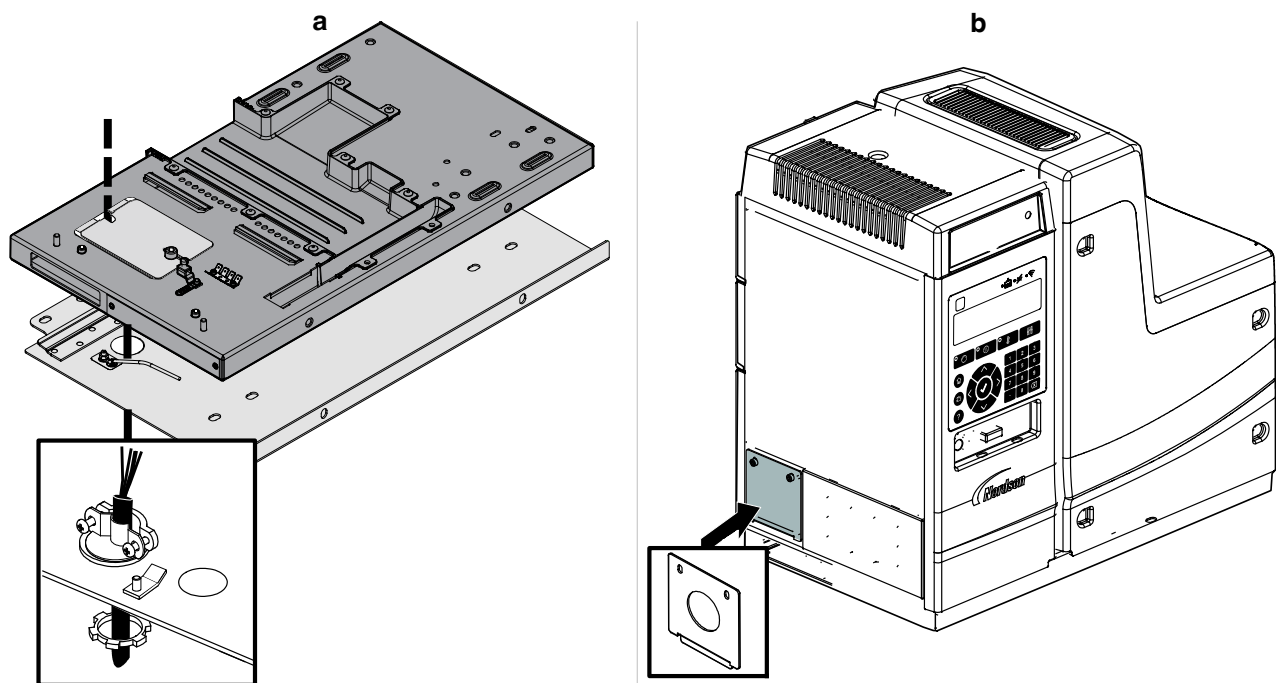

Figure 3-10 Routing incoming power
- a. If the incoming power to the melter is coming from below the chassis, remove the 35 mm conduit knockout from the sub-base plate. See item **a** in Figure 3-10.
- b. If incoming power is from the E-Box side, remove existing AC power plate and then install plate adapter (included in the ship-with kit). See item **b** in Figure 3-10.